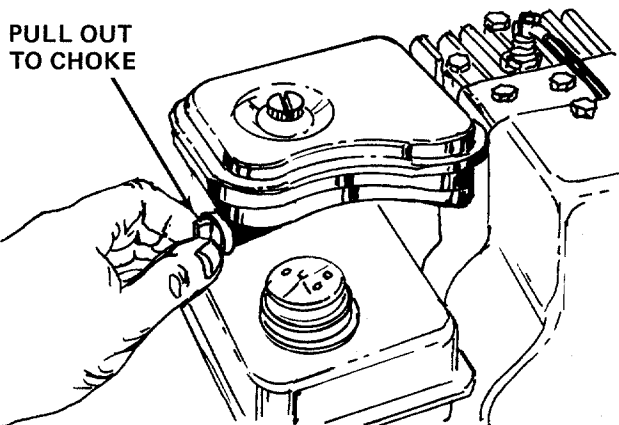

FIGURE 10
3. Pull the choke control out to **CHOKED** position if necessary. See figure 10.